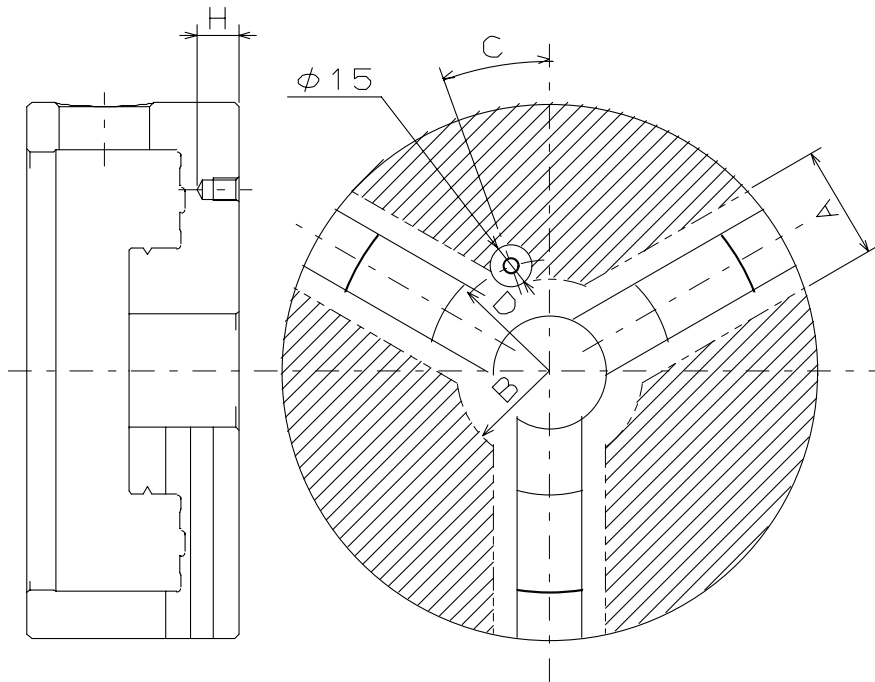

Fig.7
- In the case of attaching the locator and the jig on the chuck body surface, tap or drill a hole in the additional process range specified in Fig. 7.